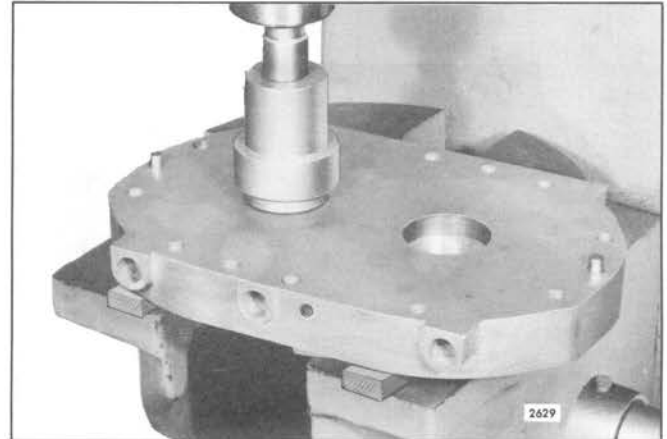

Fig. 13 – Installing Oil Seal (or Oil Seal Ring Collar) in End Plate using Tool J 6270-3
- c. Place the short end of oil seal remover and installer J 6270-3 in the oil seal and press the oil seal into the end plate until the shoulder on the installer contacts the end plate (Fig. 13).
- f. Support one of the blower end plates, inner face up, on wood blocks on the bed of an arbor press (Fig. 13).
- h. Place the oil seal ring collar installer J 6270-3 on top of the seal ring collar and under the ram of the press (Fig. 13). Then, press the collar into the end plate until the shoulder on the installer contacts the end plate.